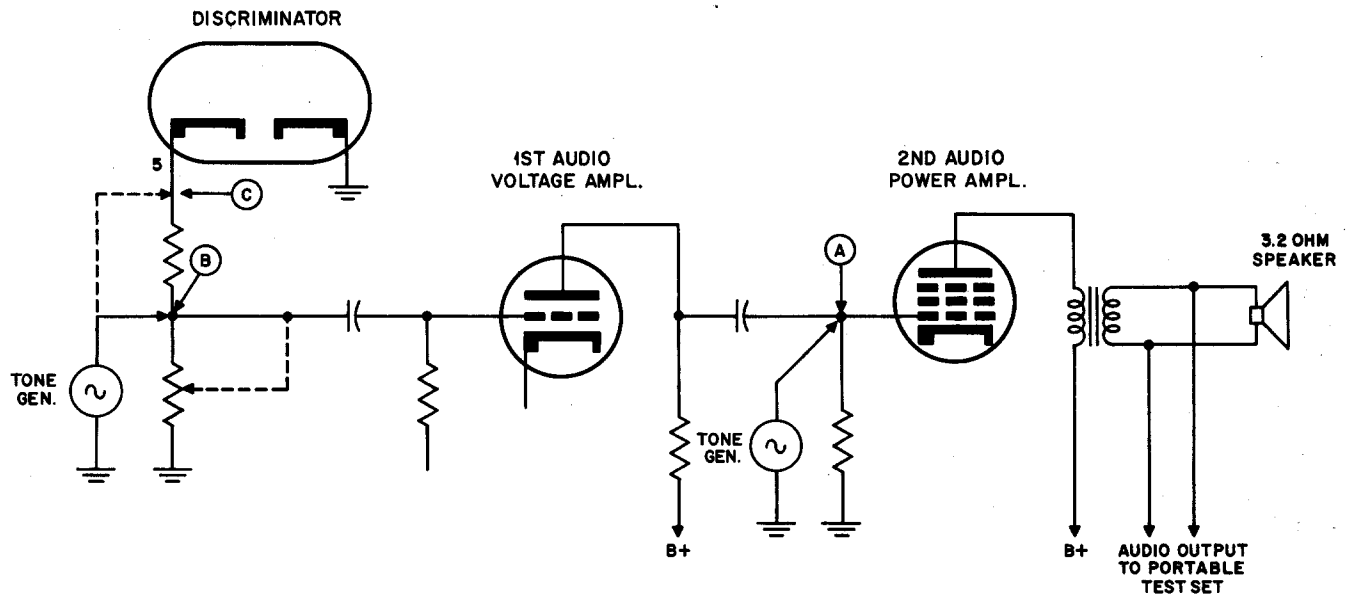

FIGURE 1
In checking the audio output of a receiver, the tone generator output is applied to various points in the receiver audio stages, (see Fig. 1). The receiver output level is then indicated on the portable test set meter. This output voltage is a function of audio stage gain and its level is an indication that the audio stages of the receiver tested have normal gain or power output.
- (1) Insert the metering plug of the portable test set into the metering receptacle of the receiver.
- (2) Set the test set metering switch to the audio position. With the test set switch in this position the meter functions as an a-c voltmeter connected across the secondary of the audio output transformer.
- (3) Use a pair of clip-on test leads with pin tips on one end from the tone generator and connect one lead to ground and the other lead to the grid of the last (PA) audio stage of the receiver (point "A" in Fig. 1). Adjust the output of the tone generator to 2 volts. Note the reading on the test set meter. This reading will be an indication of audio output level.
- (4) Move the generator lead to the top of the grid type volume control or junction point "B" in Fig. 1. Set the squelch control to the unsquelched position and the volume control fully "on". Adjust the output of the tone generator to .5 volts. Note the meter reading on the test set. This reading will be an indication of output level developed from the amplification of the two audio stages.
- (5) Move the generator lead to the output of the discriminator (point "C" Fig. 1, pin 5 on 6AL5 discriminator tube socket). Adjust the output of the tone generator to 2 volts. Note the meter reading on the test set. This reading is an indication of level developed from the discriminator point.
Figure 1 gives a common arrangement for the audio section of a communications receiver. Some models do not have a grid type volume control, and another point may be substituted for point "B".
To determine input power, the generator should be terminated in a 500-ohm load. Connect a 470 (500) ohm resistor across the generator leads and then connect to the grid of the last amplifier point ("A" Fig. 1). Adjust the generator
To find the voltage gain of the first stage, apply a signal of .25 volts to point "B" Fig. 1. Leaving the generator connected, measure the a-c voltage at point "A" (across the grid resistor of the output stage). The ratio of the output voltage to the input is the approximate voltage gain of the stage at the frequency used.